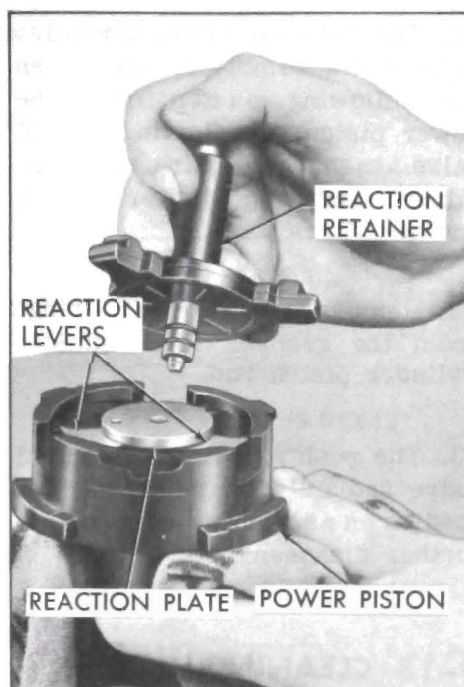

Figure 9-23—Removing Reaction Retainer
2. Remove the reaction retainer, piston rod, reaction plate, three (3) reaction levers and air valve spring. Also remove the small reaction bumper and the air valve spring retainer from the air valve. See Figure 9-23.